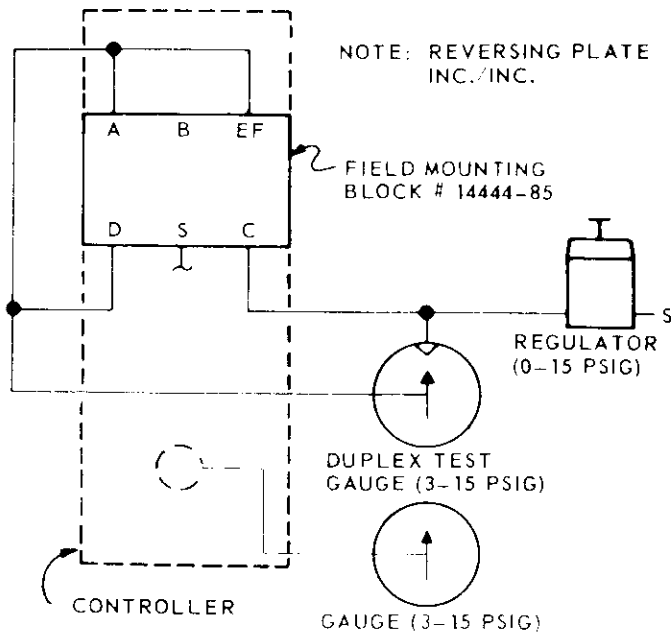

FIGURE 4-1 DERIVATIVE ZERO SETTING
1. Set up controller per Fig. 4-1.
3. Adjust process pressure (C) to 9 psig.
1. Set up the controller as per Fig. 4-1